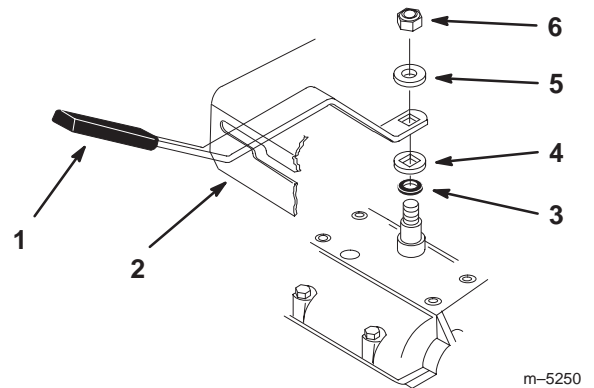

Figure 6
- If clearance is not correct, remove lever and bend it slightly to adjust (Fig. 6).